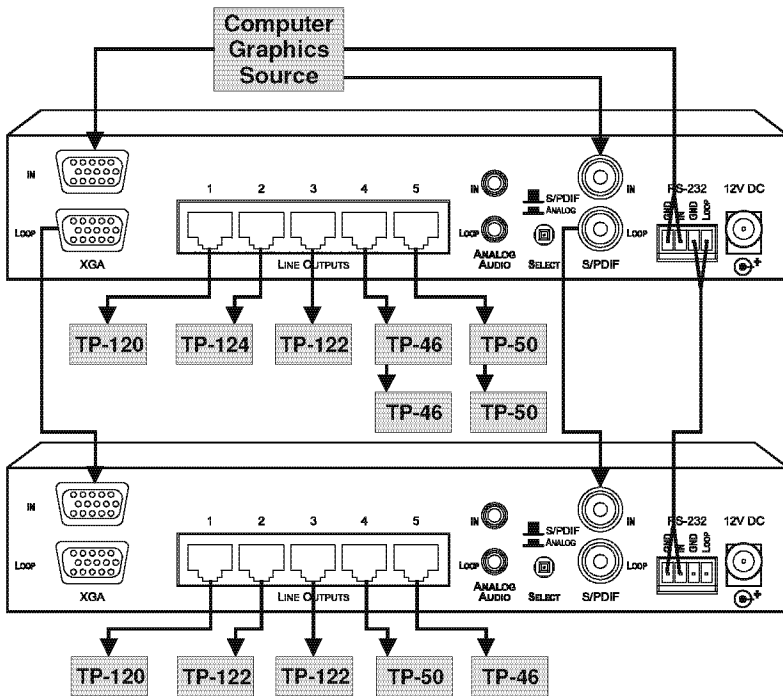

Figure 4: Looping the TP-205A
You can loop two1 **TP-205A** units to add further output signals to the system, as illustrated in the example in Figure 4. In this example:
4. Connect the LINE OUTPUT RJ-45 connectors on each **TP-205A** unit, to the LINE IN RJ-45 connectors of various receivers, as illustrated in Figure 4.